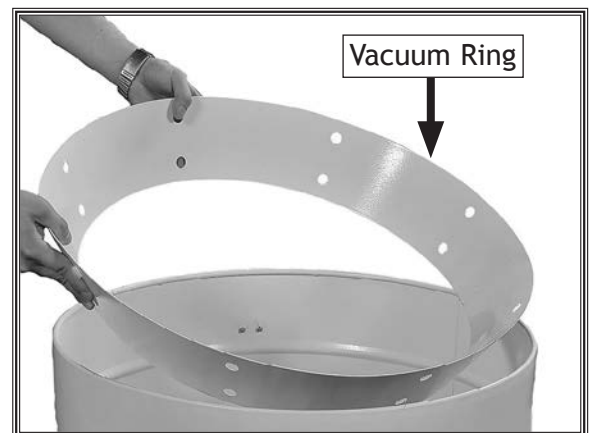

Figure 20. Inserting vacuum ring into collection drum.
18. Place vacuum ring inside collection drum with smaller side of ring facing down, as shown in **Figure 20**.